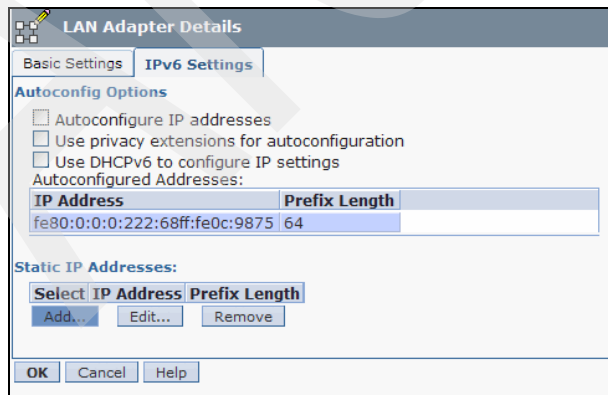

Figure 9-9 WebUI IPv6 settings window
7. Click the **Add...** button to add a static IP address to this adapter. Figure 9-9 shows the LAN Adapter Details window where you can configure the IPv6 values.